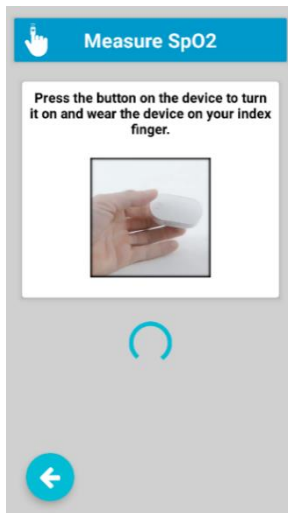
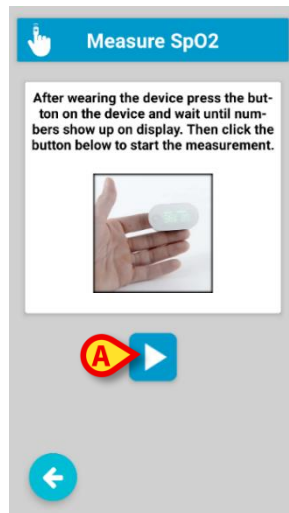

Fig 13
Fig 14
- Prepare the physical device (Fig 13 and Fig 14 - follow the instructions provided on screen).
- Tap the “Play” button  (Fig 14 **A**).